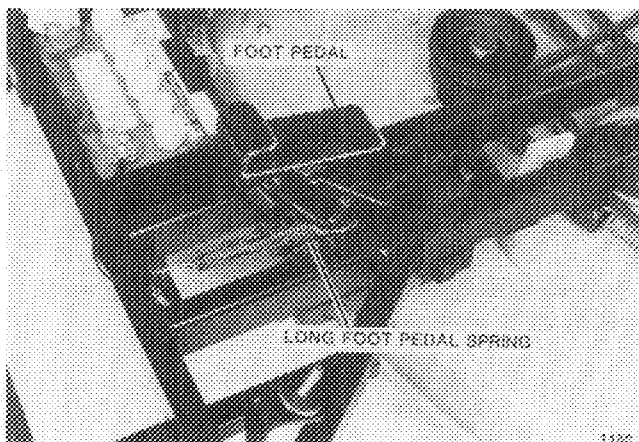
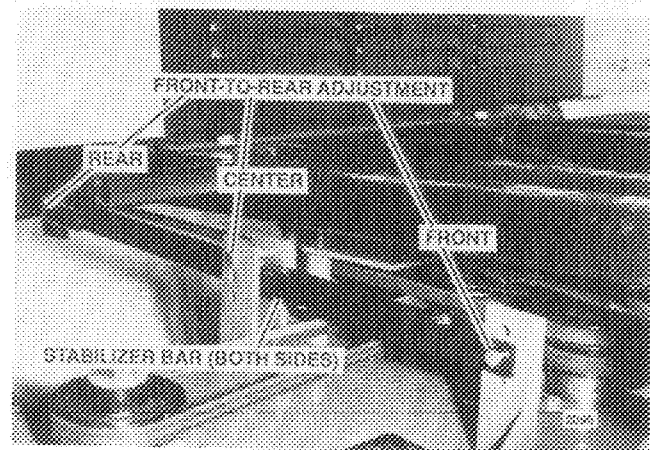

FIG. 5. Long Foot Pedal Spring
FIG. 11. Front-To-Back Level Adjustment
Push foot pedal all the way forward and remove long foot pedal spring from foot pedal lever arm (Fig. 5).
3. Mower level front-to-rear is adjusted by changing stabilizer bar positions (Fig. 11). Always adjust each side evenly. Adjust at front and middle of stabilizer bar by removing hairpin cotters and clevis pins and raising or lowering stabilizer bar positions.
To change cutting height setting, remove foot platform, raise mower and disconnect long spring on foot pedal lever arm (Fig. 5). Remove mower drive belt and lower mower all the way down. Remove center clevis pins (Fig. 11). Position front clevis pins in holes to match desired height setting. Reinstall middle clevis pins in holes to match desired height setting. Reinstall foot pedal spring. Reinstall mower drive belt and foot platform.
3. Push foot pedal forward and remove long spring from foot pedal lever arm (Fig. 5) - save parts.